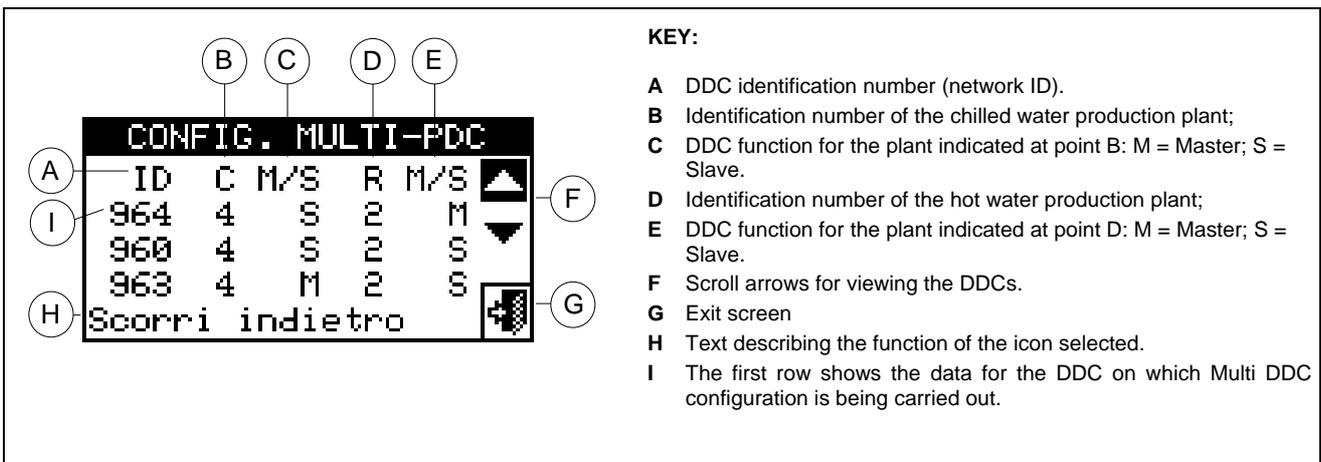

Figure 18 – EXAMPLE OF MACHINE CONFIGURATION MENU SCREEN
All DDCs begin to display information about themselves and about the other DDCs present, as shown in Figure 18. The first row shows information regarding the DDC on which data is being viewed. The following rows regard the other DDCs present in the network. The figure below shows the parameters displayed during configuration of Multi DDC plants.
- 7 - A screen appears on which the data described in Figure 18 appears, regarding the DDC on which Multi DDC configuration is being carried out.